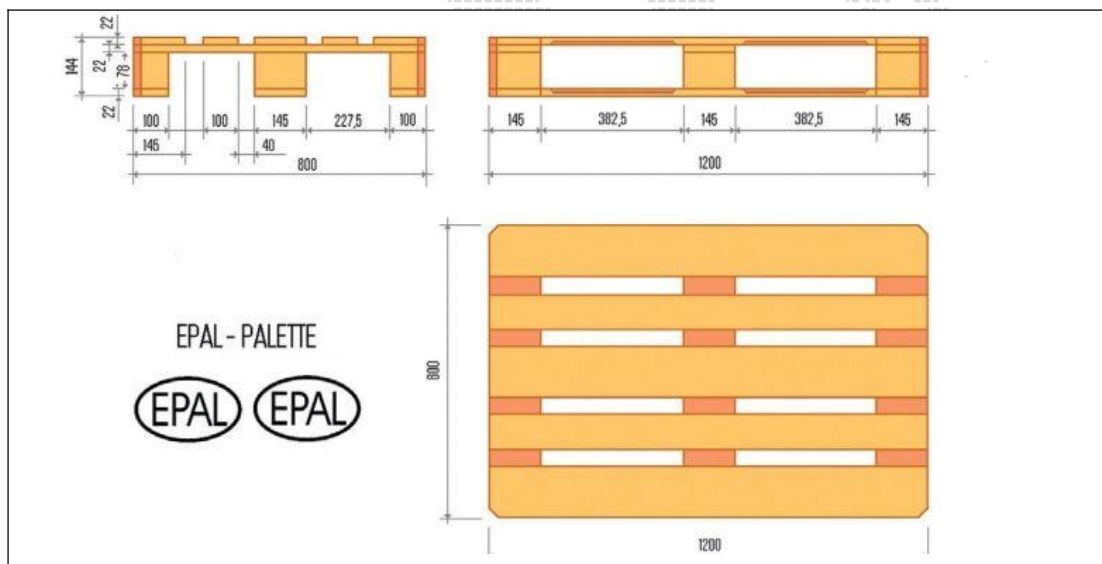

Fig 8.2: Pallet Dimensions
- (Fig 8.2: EPAL Pallet Dimensions)